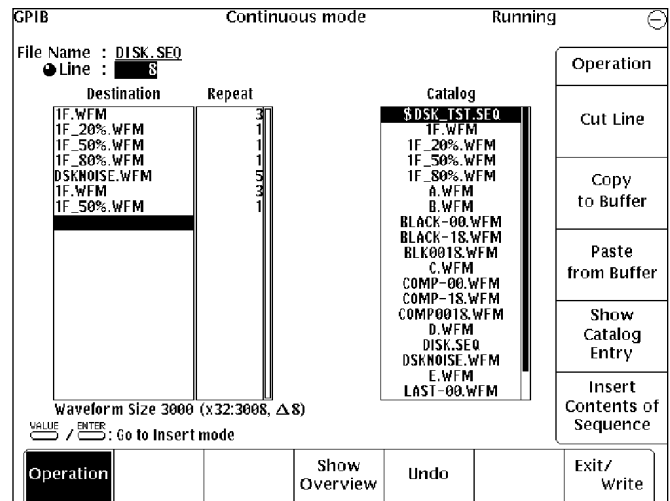

Figure 8. Disk-drive waveform sequence DISK.SEQ with line 3 copied and pasted to line 7.
4. Select PASTE FROM BUFFER on the side menu. The screen should look like Figure 8. Each time PASTE FROM BUFFER is selected, the line stored in the paste buffer is pasted into the location you select.